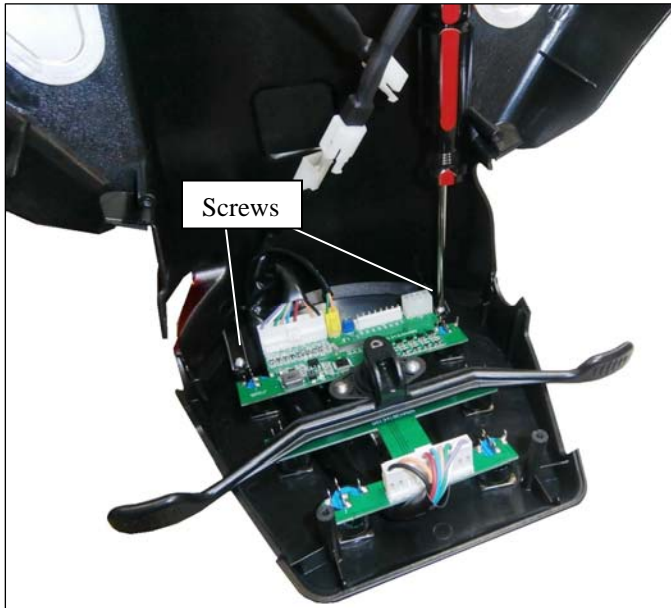

Figure 7. Inside Dash
- 6) Unplug the (4) cables from the dash and the (2) cables from the turn signals.
- 7) Remove the (2) Phillips screws on the underside of the dash, which secure the dash assembly to the tiller. See figure 7 on page 17.